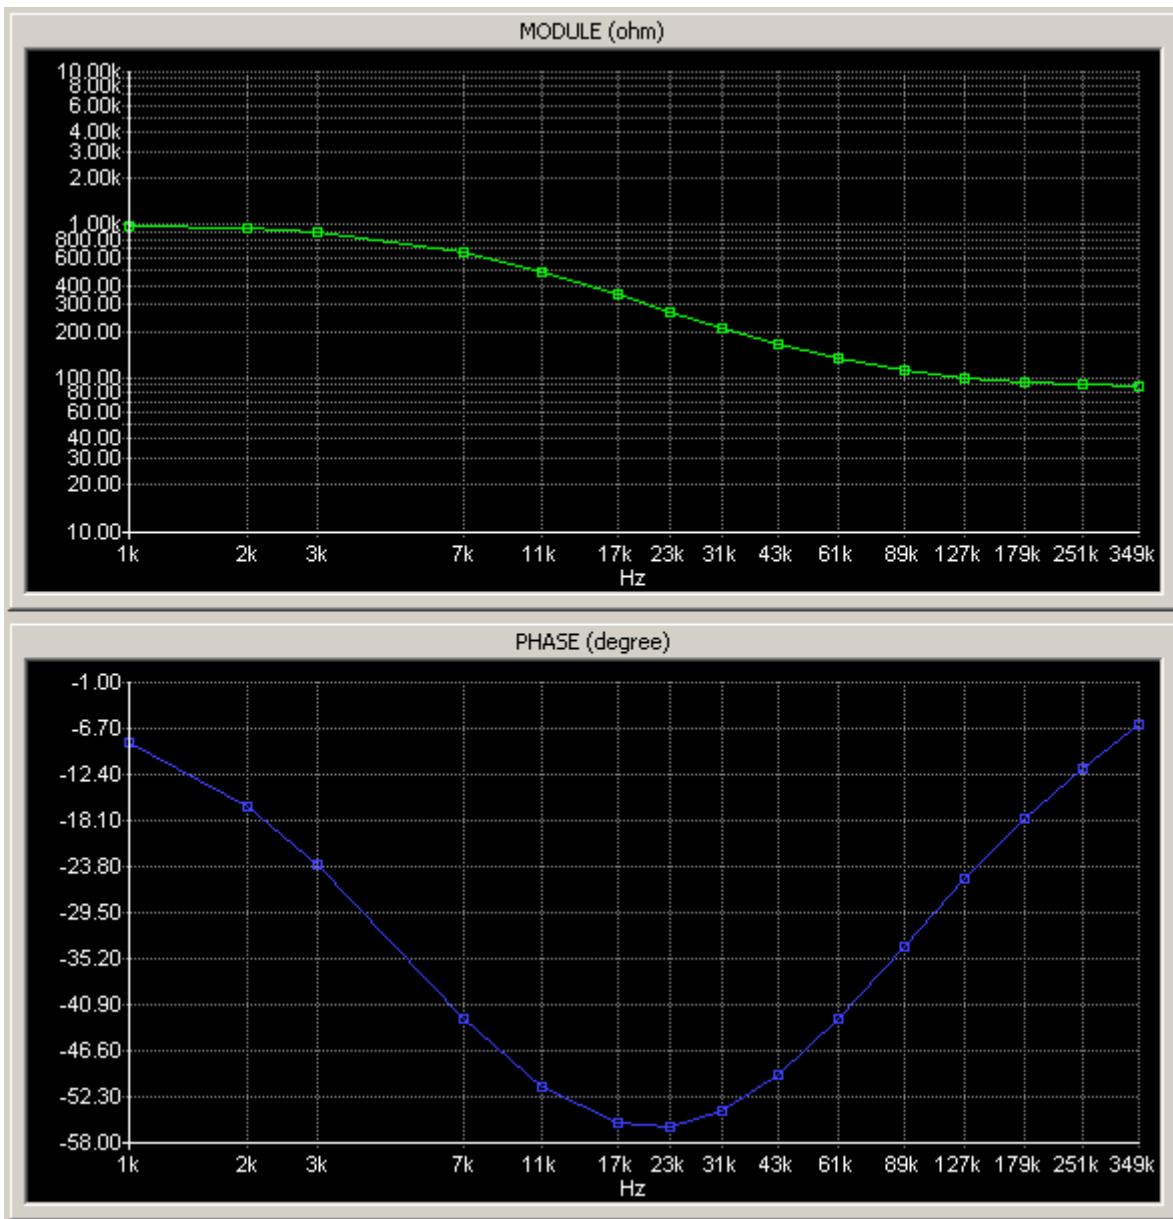

Figure 25 RC Circuit Impedance (button on the demo board is pressed)
10. The measured impedance of the second circuit is similar to examples on **Figure 25**.